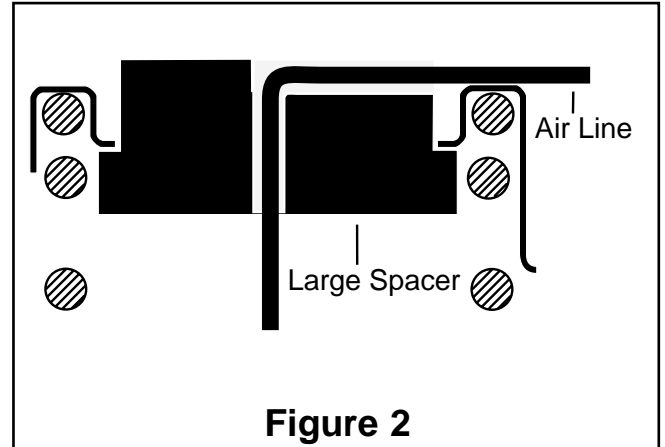

Figure 2
6. Insert large spacer into the coil. Route the air line through the hole in the spacer and push spacer into the hole in the upper spring seat (Figure 2). Route airline horizontally through groove in the spacer. Repeat this process for the other side.